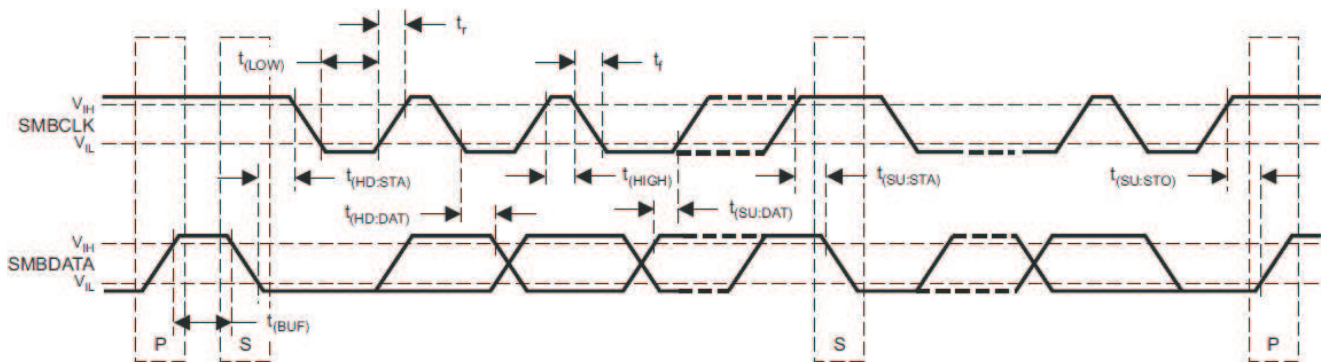
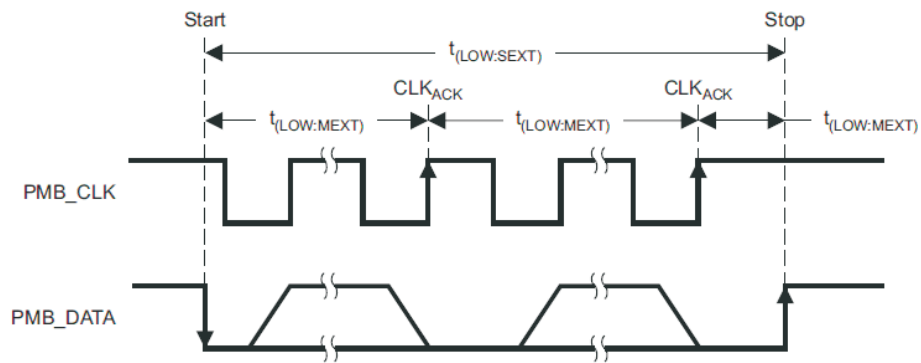

Figure 6. IC/SMBUS/PMBUS Timing Diagram2
Figure 7. Bus Timing In Extended Mode
The timing characteristics and timing diagram for the communications interface that supports I2C, SMBus, and PMBus in Slave or Master mode are shown in PMBus/SMBus/I2C Timing, Figure 6, and Figure 7. The numbers in PMBus/SMBus/I2C Timing shows that the device supports standard (100 kHz), fast (400 kHz), and fast-mode plus (1 MHz) speeds. (1)